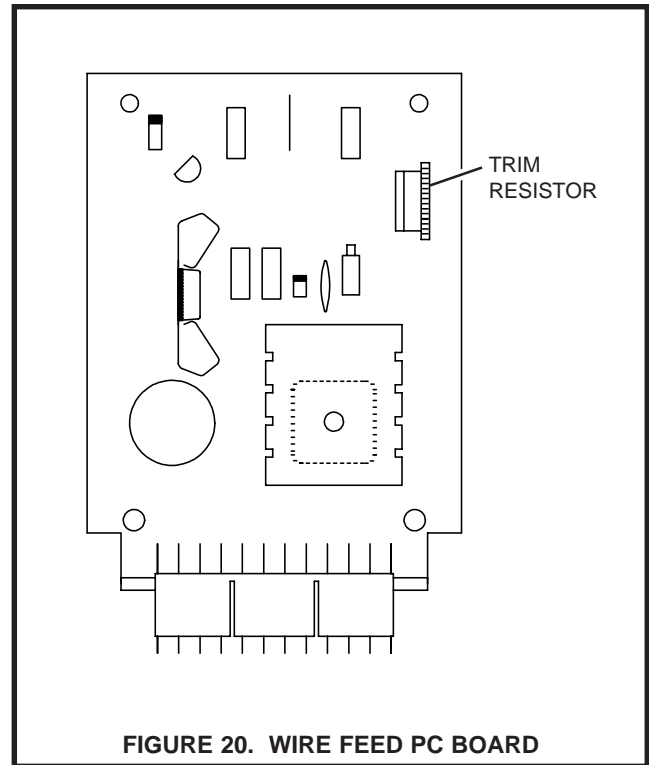

FIGURE 20. WIRE FEED PC BOARD
3. Referring to Figure 20, locate the trim resistor, this is located in the upper right hand corner of the wire feed PC board.